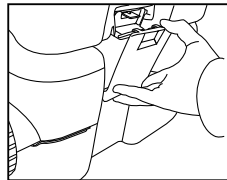

Figure 4
- ❖ Heavy duty, corrosion resistant side latches lock tanks together (figure 4)